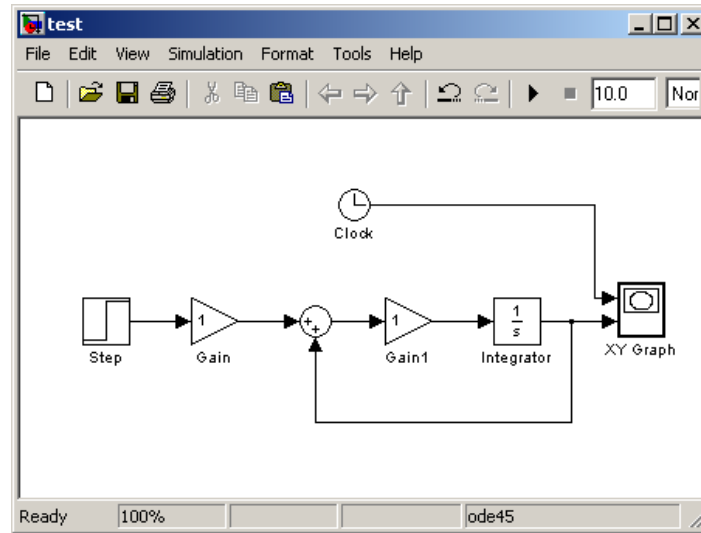

Figure 10: Simulink First Order System Model
13. Now we are ready to connect the blocks. This takes some practice, but you generally click on the source or destination block and drag the line. Connect the blocks so your model now looks like the Figure 10. To get the bottom line into the summer, make a line going down from the sum block, let go, then make a separate line from your first line to the line after the integrator.